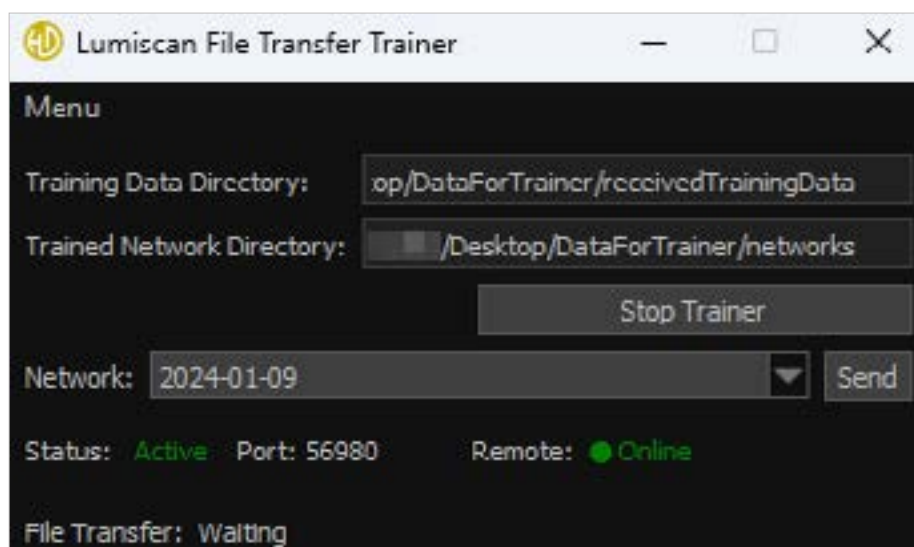

Fig. 38: LumiScan File Transfer: Trainer connected to Runner
4. If the connection to the Runner is successful, the **Remote** displays **Online**. (Fig. 38 ).